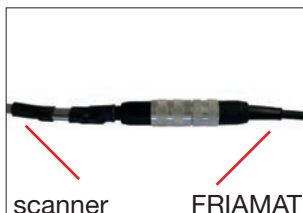

Fig. 6
- Connect the FRIAMAT barcode scanner (without reader wand adapter) with the connector of the FRIAMAT data cable (Fig. 6).